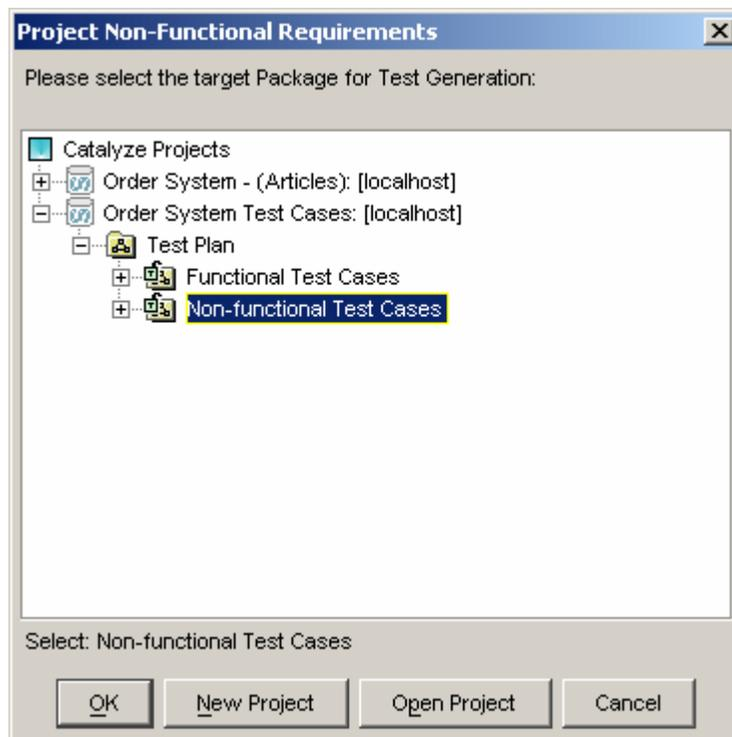

Figure 74 - Specifying the location for generated Test Cases
- A screen appears (see Figure 74) prompting you to specify the location you wish the tests to be generated to. You should choose a package appropriate for the type of test to be generated